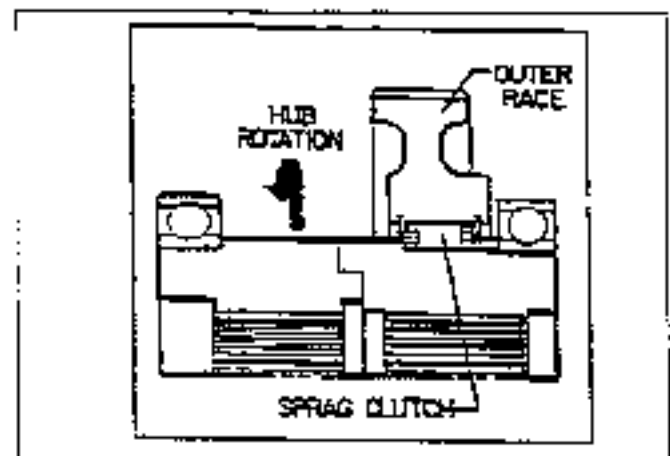

Figure 32
10. Remove the inner bearing from the hub assembly with a wheel puller that will not push against the outer race. Loading against the outer race can damage the sprag clutch. Remove the spacer and slide the outer race from the hub. Inspect the sprag clutch for flat surfaces. See Figure 32.
11. Clean the two hub bearings with solvent and dry with compressed air. See Figure 32.
13. Reassemble the hub and outer race and install over the drive shaft and into the drive mount. See Figure 32.
If the sprag clutch is not installed correctly, the winch will not function. Install the sprag clutch edges toward the inside of the winch when assembled. The hub must rotate in the direction as shown with respect to the outer race. See Figure 32.